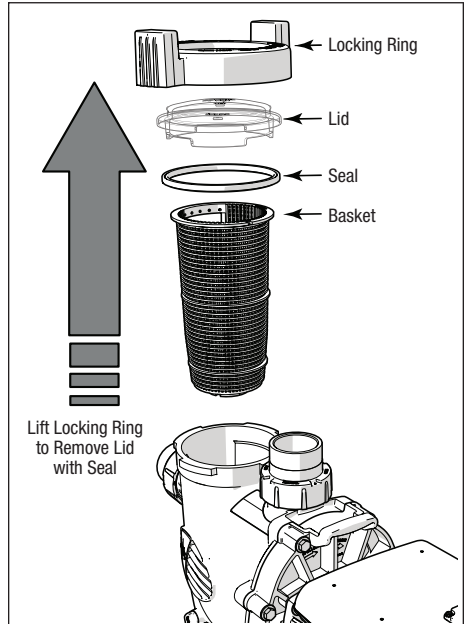

Figure 18. Remove Pump Lid
1. Remove the seal from the lid. See *Figure 18*.